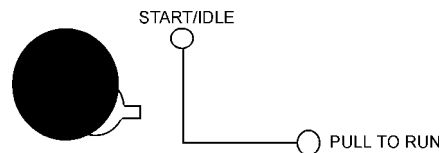

Figure 51. Engine Speed Switch (low)
9. Once the engine is warm and the engine is running properly, pull and turn the lever to 'RUN' (Figure 51).